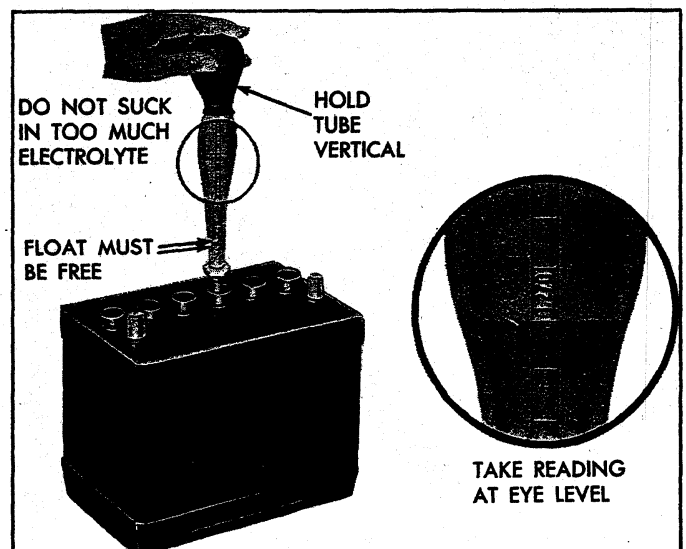

Fig. 6 - Testing Specific Gravity of Battery
1. Measure the specific gravity of the electrolyte in each cell (fig. 6). If it is below 1.230 (corrected to 80°F.) recharge with a slow rate charger, or if desired, further check battery.